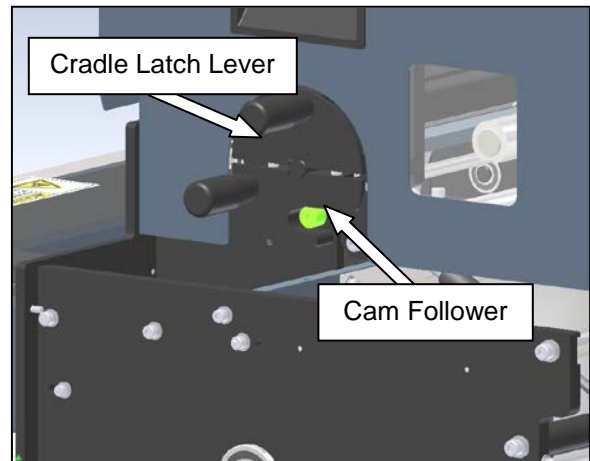

Figure 3-187. Cradle Latch
1. Turn the cam follower (shown in Figure 3-187) by hand, ensuring it spins smoothly with no spots that stick. Also check that it is free of lateral movement.